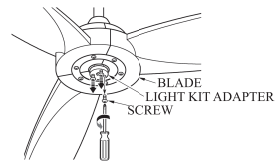

FIG. 14
1. Remove 1 of 3 screws on light kit adapter, and loosen the other 2 screws. (see Fig.14)